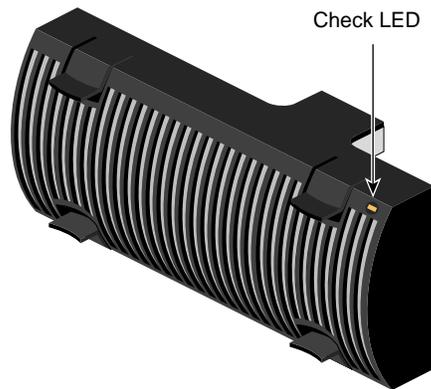

Figure 4-6 Fan Assembly Status LED Orientation
5. Orient the new fan assembly. Although the fan assembly can attach to the enclosure with either side up, for a consistent image with multiple FibreVault or fibre channel RAID enclosures, install it with the status light in the upper right corner, as shown in Figure 4-6.
You can install the fan assembly in either orientation. However, for a consistent image with multiple FibreVault or fibre channel RAID enclosures, install it with the status light in the upper right corner as shown in Figure 4-6.